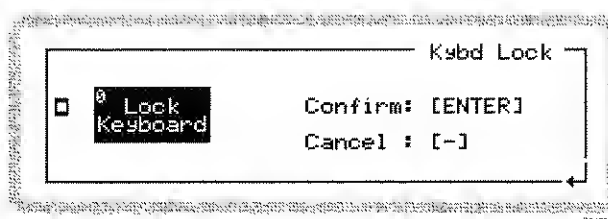

Fig. 3-126 Confirming keyboard locking
Touch the **0 Lock Keyboard** soft box or key 0 to lock the keyboard (Fig. 3-126).